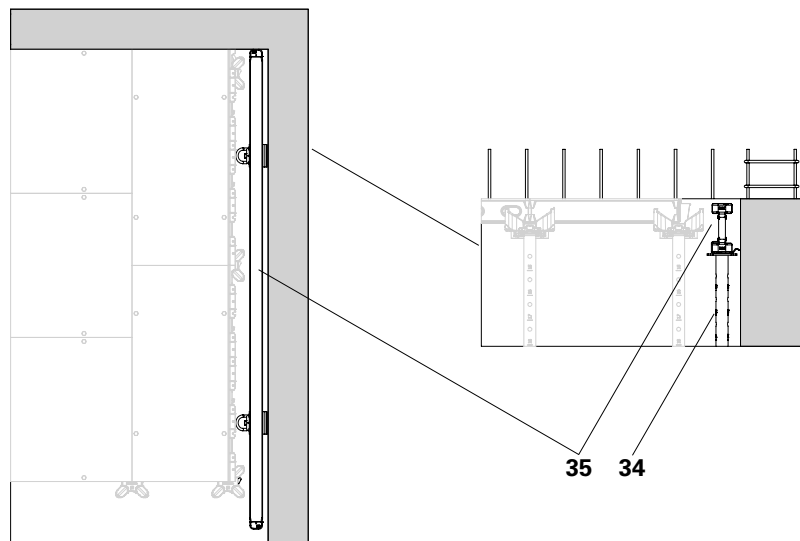

Fig. D3.03
6. Erect slab props (**34**) with a cross-head for accommodating the VT 20 girder (**35**) as close as possible to the wall. (Fig. D3.03)